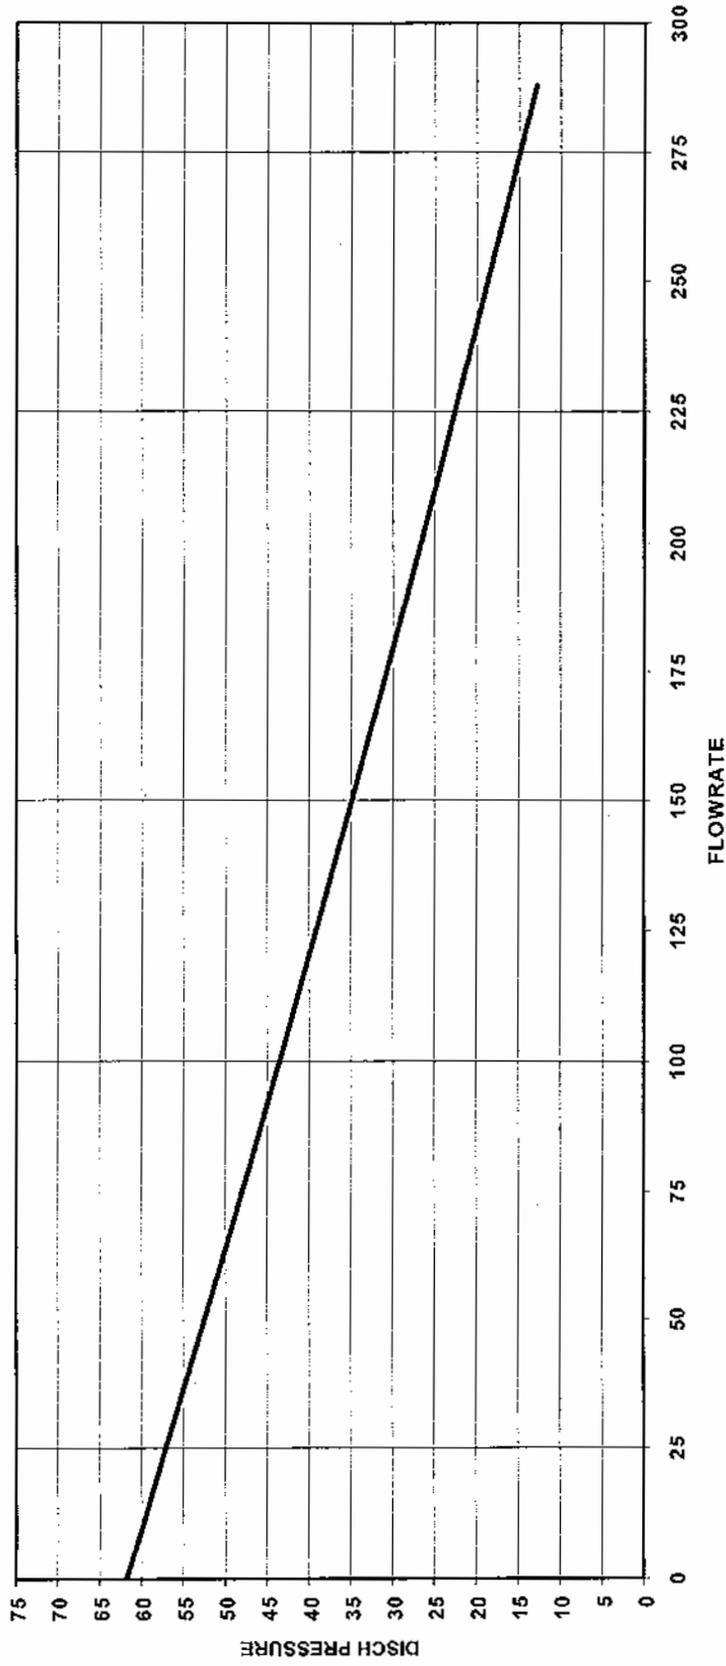

Figure D-13. USCG CCGN150-5C with US Navy Wrap-Around Steam Coil at 1200 cSt.
- Figure D-13 USCG CCN150-5C with US Navy Wrap-around Steam Coil at 1,200 cSt.